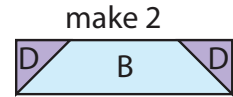

Fig. 20
19. Use the flip and sew method to add a 1 1/2" Fabric D strip to each side of (1) 1 1/2" x 4 1/2" Fabric B strip to make (1) small DBD unit (Fig. 20). Repeat to make a second small DBD unit.